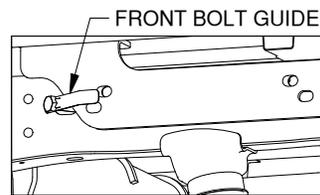
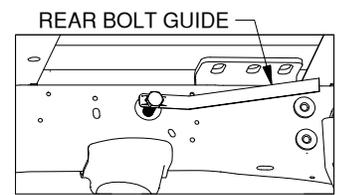

Figure B3: View from outside of driver side wheel well, front bolt guide installation step 1.
Figure B6: View under bed inside of driver side frame, rear bolt guide installation step 1.
2. **Install the bolt guides.** Insert the front bolt guides (shorter ones) into the frame and guide the threaded end of the bolts out the holes, as shown in Figures B3 to B5. Insert the rear bolt guides through the large holes on the inside of the frame rails and guide the threaded end of the bolts out of the holes in the frame, as shown in Figures B6 to B8.